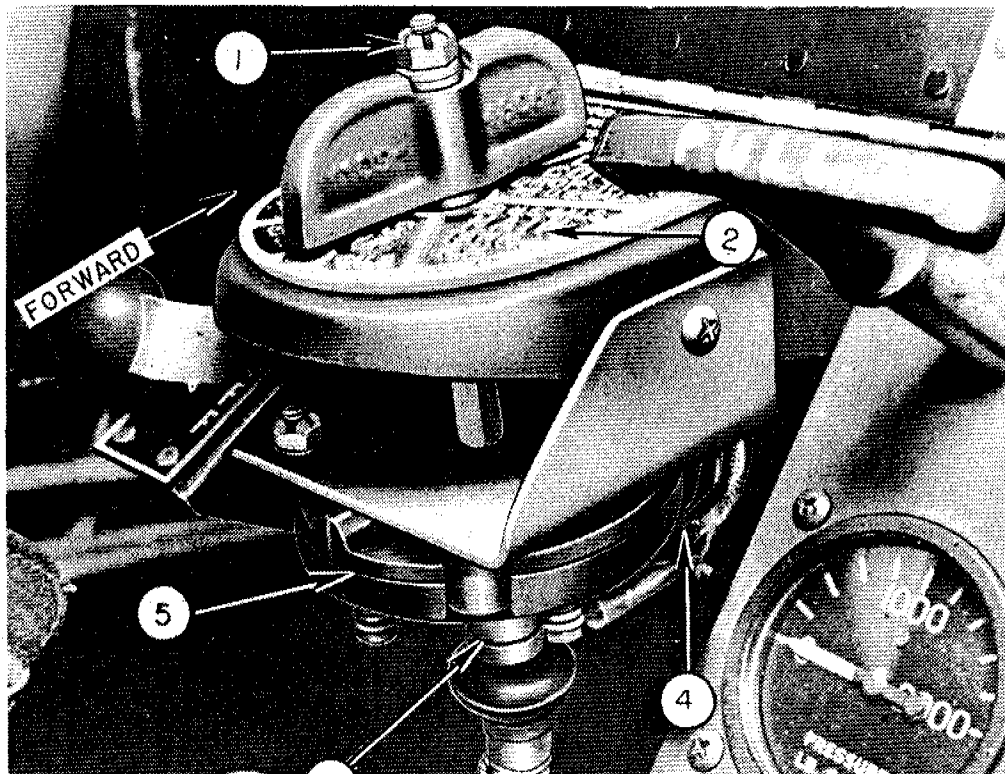

Figure 1
a. Locate the fuel selector switch in the pilot's cockpit. Remove the control handle by removing the nut and washer securing it to the rod. Remove the plastic dial from the switch bracket. (See figure 1.)